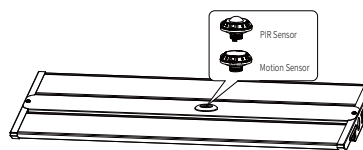

Figure 13
Step2.Twist-lock the DC sensor to the base to make it work properly, use a remote control to adjust the working mode as per demand.(Figure 13)